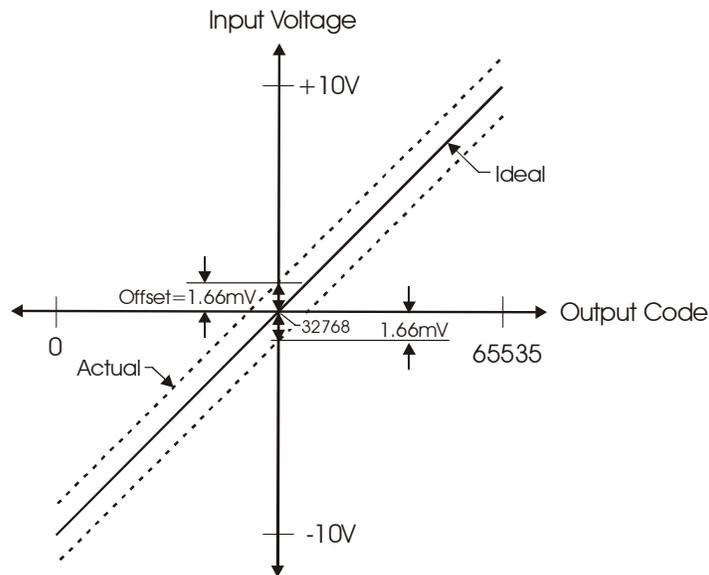

Figure 3-8. ADC transfer function with offset error
The USB-1608FS offset error is measured at mid-scale. Ideally, a zero volt input should produce an output code of 32768. Any deviation from this is an offset error. Figure 3-8 shows the USB-1608FS transfer function with an offset error. The typical offset error specification for the USB-1608FS on the  $\pm 10$  V range is  $\pm 1.66$  mV. Offset error affects all codes equally by shifting the entire transfer function up or down along the input voltage axis.
**The accuracy plots in Figure 3-8 are drawn for clarity and are not drawn to scale.**